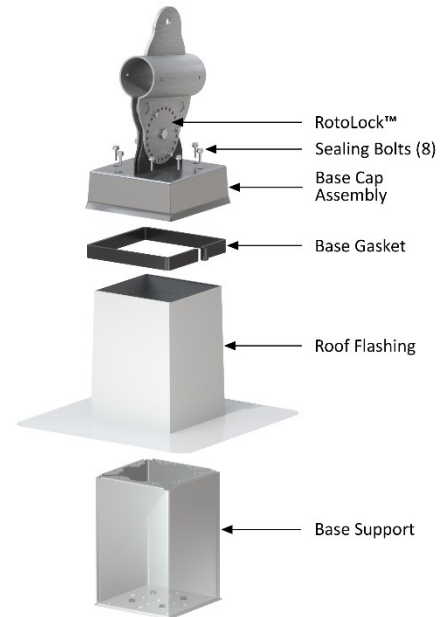

FIGURE 14
**SQUARE BASE WITH ROTOLOCK:** Our standard attachment system (Figure 14) is designed to mount to various types of roof structures and adjust to the roof pitch with our RotoLock™ feature. The inside bottom plates of the Base Supports have pre-punched holes to accommodate different types of fasteners for wood, steel and concrete.